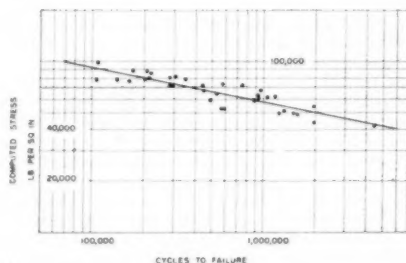
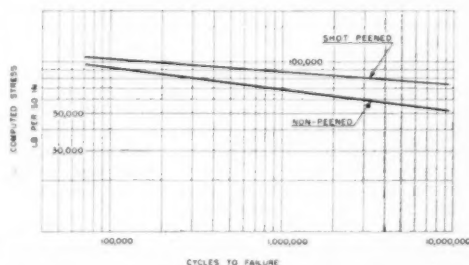

FIG. 1 FATIGUE CHART OF 155 HELICAL AUTOMOBILE TRANSMISSION GEARS USING PREFERRED METHOD OF CALCULATING TOOTH STRESS
FIG. 2 FATIGUE CHART OF CARBURIZED AUTOMOTIVE-TYPE SPUR AND HELICAL GEARS, SHOTPEENED AND NONSHOTPEENED
An appraisal of the effectiveness of this method can be obtained from the chart in Fig. 1 (reference 1), which shows the relationship between the stress number as calculated and the average life of the gears as determined by the dynamometer tests. Included in the chart are 155 tests on a variety of designs.
All of the tests, represented in Fig. 1, were made on gears of approximately 60 RC surface hardness, with no surface treatment other than the heat-treatment itself.
Fig. 2 shows a fatigue line similar to that in Fig. 1, based on the same method of calculation, but from considerably more data than those originally accumulated. The lower line is comparable to that in Fig. 1 except that it represents carburized gears only and is somewhat higher. The original data in Fig. 1 included carburized gears as well as through-hardened and cyanided gears and, although the test points for the through-hardened gears were somewhat lower than for those which were carburized, there were not sufficient data at that time to distinguish between these two groups. More recent data on carburized gears have indicated that there is a distinct advantage in carburized gears as compared to those which are through-hardened and cyanided. Therefore it would be expected that results on through-hardened gears would fall below the average line. The actual test points have been deleted in Fig. 2 for the sake of clarity.
The upper line in Fig. 2 shows the average life in relation to the calculated stress for shotpeened carburized gears. In all cases, peening was the last operation in so far as the teeth are concerned, and no attempt was made to protect the tooth flanks from the blast.
A chart similar to that in Fig. 2 was recently published by J. O. Almen (6), which shows the lines for carburized gears, peened and nonpeened at a somewhat higher stress. This is due to the fact that the lines in Almen's chart are chosen to represent higher quality of manufacture. The lines shown in Fig. 2 represent a conservative average of the same test data along with additional data accumulated by the author on carburized gears, peened and nonpeened.